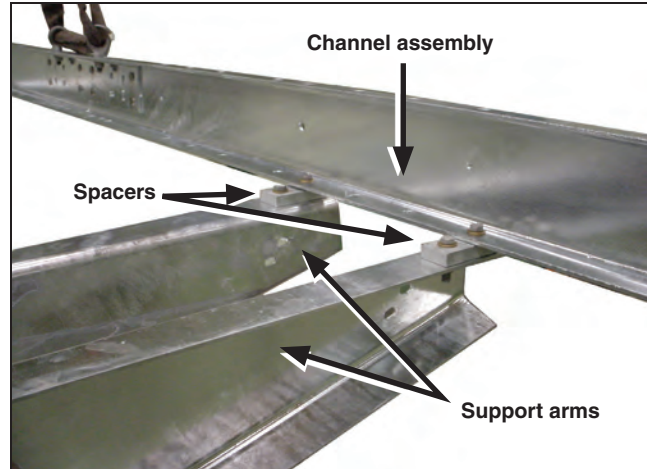
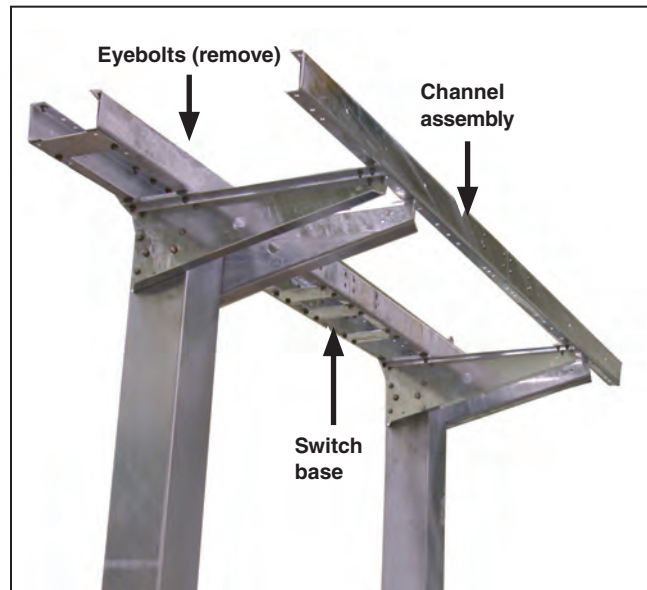

Figure 6. Lift the channel assembly and secure to support arms. Use spacers to achieve the correct mounting height.
Figure 7. Check the switch base and channel assembly to make sure they are level. Remove the eyebolts.
- (a) Attach four suitable lifting slings to the channel assembly using the eyebolts provided. See Figure 6.
- (c) Secure the spacers to the support arms using four $\frac{5}{8}$ -11 \times $2\frac{1}{4}$ -inch hex-head cap screws, flat washers, and self-locking hex nuts furnished. Align the channel assembly with the empty set of holes in the spacer and support arms, and secure with the remaining four $\frac{5}{8}$ -11 \times $2\frac{1}{4}$ -inch hex-head cap screws, flat washers, and self-locking hex nuts furnished. See Figure 6 and Figure 7.